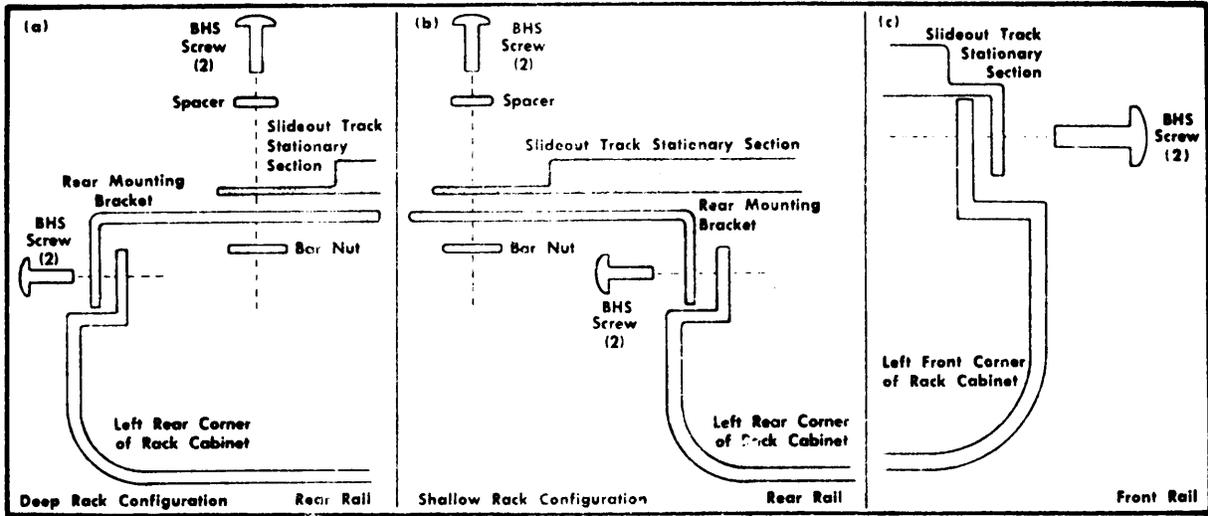

Fig. 11-8. Mounting the left stationary section to topped vertical rails.
Stationary Section Installation. A wide variety of mounting methods is available for installing the stationary sections in the rack, as shown in Figs. 11-8 and 11-9. The following factors should be taken into consideration when choosing the mounting method for a particular installation:
5. Using Figs. 11-8 and 11-9 as a guide, attach the rear mounting brackets to the rear rails using 10-32 pan-head screws.